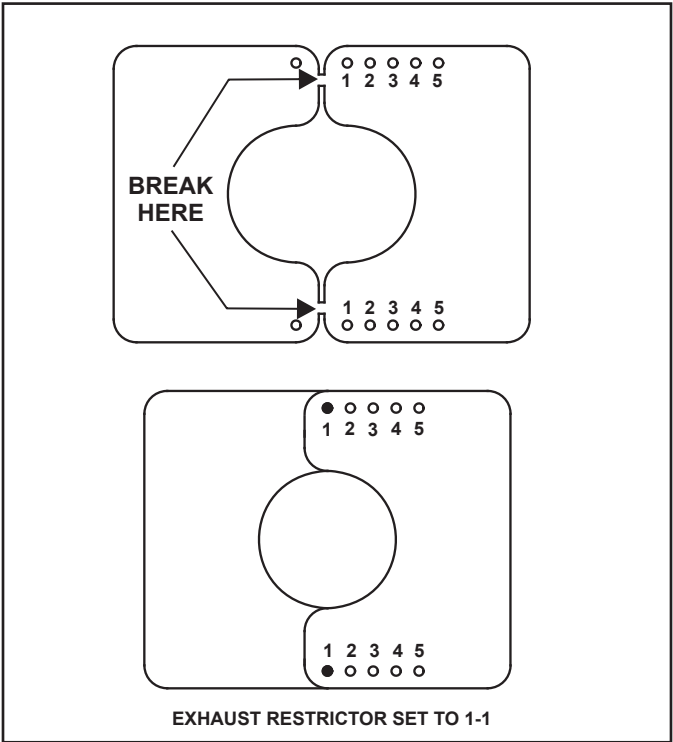

Figure 4.13 Exhaust Restrictor Installation
- 2. Break the exhaust restrictor into two pieces. Do this by bending the part back and forth until it breaks. See Figure 4.13.
- 3. Orientate and align the two pieces of the exhaust restrictor as shown in Figure 4.13.